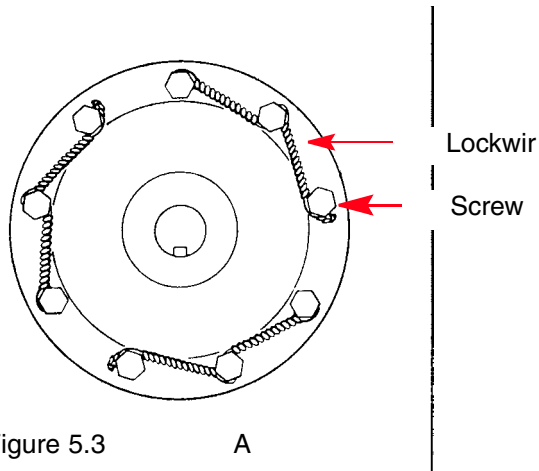

Figure 5.3
3. Remove and label right motor hose assembly (1) and left motor hose assembly (2).
4. If left motor (3) is to be removed, remove motor valve (4) from inboard and outboard left motor hose assemblies (5 & 6).
5. Remove cover (7) right hand or (8) left hand.
7. Remove drain plug (9) right hand or (10) left hand with gear case (11) right hand or (12) left hand and gasket (13).
8. Remove roller compound gear (14) and
9. Motor compound gear (15). This releases motor gear (16) and motor gear key(17).
**NOTE:** Mark orientation of motor gear key (17) for re-assembly. The tab on one end should rest on top of motor gear(16).
10. Remove lockwire and 9 screws. Motor (3) is now free to come out through side opening in body, or between the bodies.
11. Reverse procedure to re-install motor (3).
12. Torque screws to 8-10 ft. lbs. Be certain to re-lockwire the 9 screws (See fig 5.3).